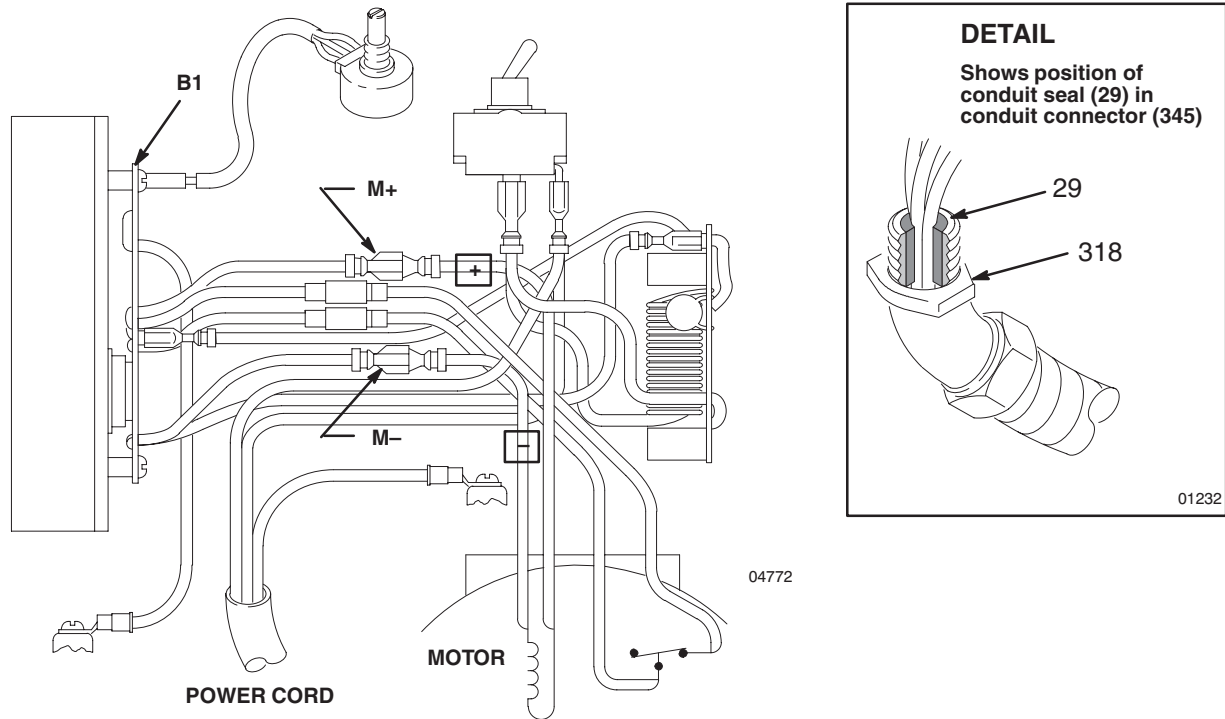

Fig. 21
Motor Replacement (Fig. 21 and 22)
2. Remove the motor shield (59).
3. Remove the pressure control board/cover (301). Disconnect the four motor leads. See figure 21.
4. Loosen the conduit connector nut on the conduit connector (318) at the pressure control.
5. Swing the conduit (1) away from the conduit connector (318).
6. Remove the conduit seal (29) from around the conduit elbow coming into the pressure control. Pull the motor leads through the elbow, one at a time.